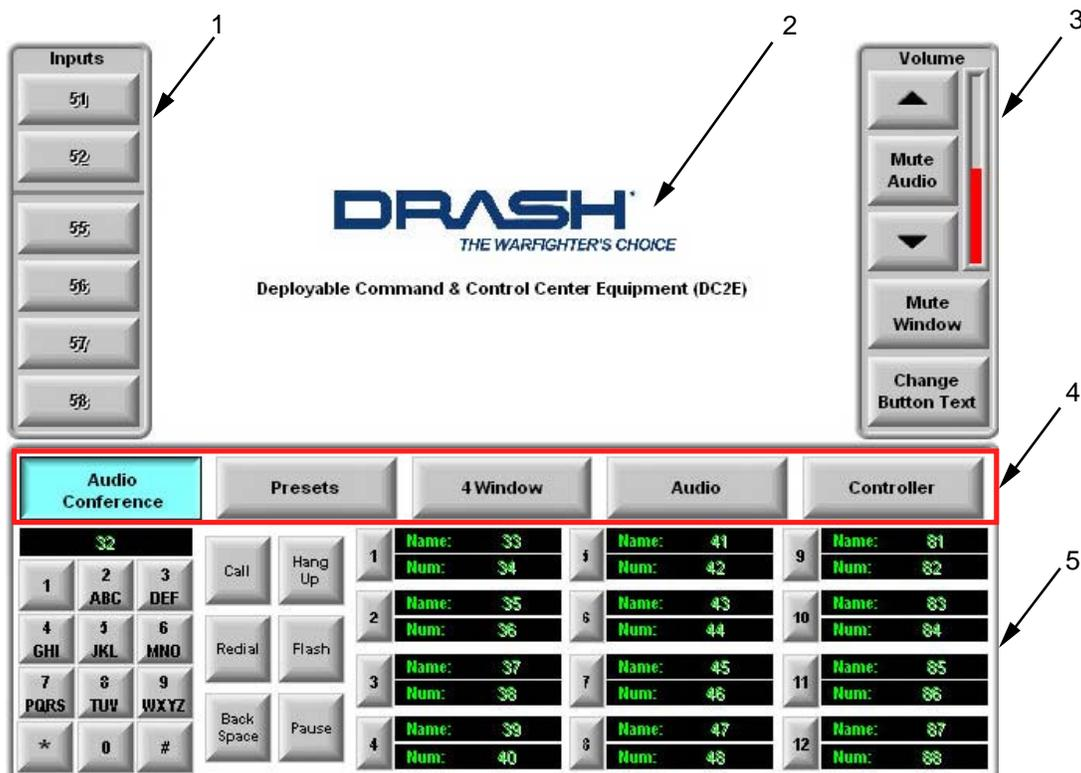

Figure 4. AVCS Main Display.
After the system is completely booted, it will default to the Main Display page (**Figure 4**). **The Main Display page is shown with callouts indicating the five main functional AVCS Control Groups.**
6. Observe the Control Panel has reverted to the Main Setup Page (Figure 4). Note that adjusting presets is covered in back of this Work Package.